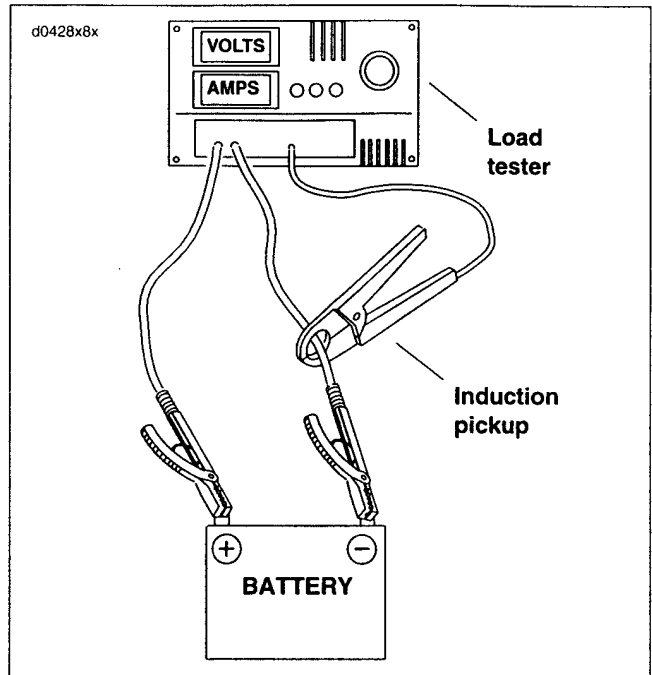

Figure 8-31. Load Test Battery
4. See Figure 8-31. Connect tester leads to battery posts and place induction pickup over negative (black) cable.